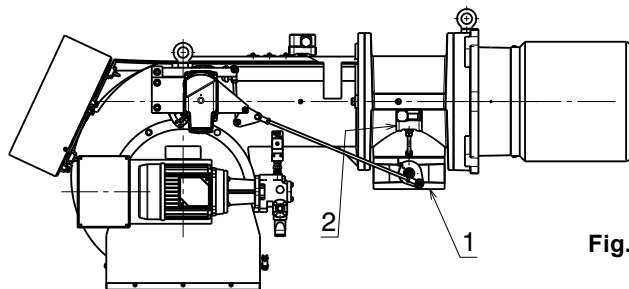

Fig. 27
Gas pressure measured at test point 2)(Fig. 27), with:
Pressure drop at gas butterfly valve 1)(Fig. 27) with maximum opening: 90°.
- subtract the combustion chamber pressure from the gas pressure measured at test point 2) (Fig. 27).
To calculate the required gas pressure at test point 2) (Fig. 27), set the maximum modulating output required from the burner operation:
- Read, on the right (column 1), the pressure at the test point 2)(Fig. 27).
pressure required at test point 2)(Fig. 27).